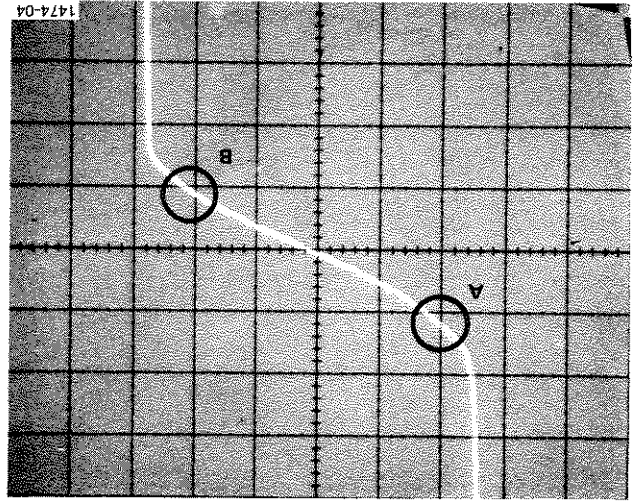
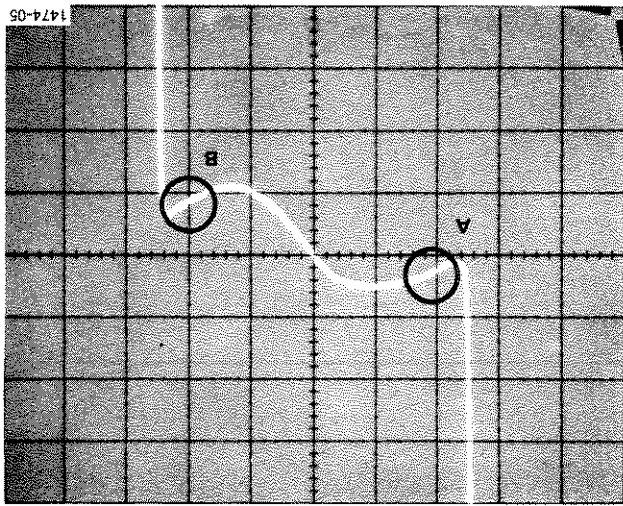

Fig. 2-3. Typical displays of Op Amp characteristics.
Fig. 2-4. Typical displays of Op Amp characteristics.
**Measuring Parameters.** Operational amplifier parameters are obtained from the crt display on the TEKTRONIX 577-178 much as parameters of transistors and diodes are obtained with conventional curve tracers. The operator first reads the crt display and then makes any necessary calculations. In the closed-loop test just described, the dut small input signal, or dependent variable, is displayed on the vertical axis of the crt. The large amplitude test signal at the dut output, or independent variable, is displayed on the horizontal axis. Gain is obtained by dividing a change in output voltage (horizontal) by the corresponding change in input voltage (vertical). Fig. 2-3 is such a crt display of an amplifier gain curve or transfer characteristic measured at essentially dc (actually 0.05 Hz). Zero volts on both axes is at center screen. Considering points A and B, for an output swing from -10 volts to +10 volts, the input voltage is seen to change 200 microvolts. The gain of this amplifier is 100,000 (or 100 dB), obtained by dividing output voltage by input voltage.
The vertical deflection of the curve shown in Fig. 2-3 is positive for negative output voltage. The curve occupies the second and fourth quadrants. The vertical lines going off-screen are caused when the output of the operational amplifier (dut) reaches its limits. At that point the sweep generator test signal no longer moves the dot output, but is applied to the input, causing large, off-screen excursions.
A tester that provides a numerical answer is likely to measure large gain by making two "point" measurements; for example, from point A to point B as shown in Fig. 2-3. A curve tracer measurement, by contrast, not only shows points A and B, but how the amplifier responds at all points between.
In Fig. 2-3, the curve between points A and B contains the information theoretically expected of an ideal amplifier; linear, constant slope with no spurious excursions. It is thus easy to assume that the input voltage is well behaved in all such devices and need not be checked. This misunderstanding can be dispelled by examining four other gain curves.
Figures 2-4 through 2-7 show characteristics that go from point A to point B, but not in the anticipated ideal manner. These are not unusual amplifiers that were built especially to demonstrate a point, but commonly available integrated circuit amplifiers. The "unusual" response is the ideal curve in Fig. 2-3. Most devices either do not produce ideal dc transfer characteristics or their application (operating conditions) distorts the characteristics beyond recognition.
In a world of ideal amplifiers, where all curves look like adequate for intelligent circuit design or component selection. From gain and the required output voltage change, a circuit designer can determine how much error signal will appear at the output of the amplifier. As Figs. 2-4 and 2-7 show, however, the real world is seldom ideal. These figures demonstrate that the published gain may not always be very meaningful or useful, especially at dc or very low frequencies. Here, thermal effects often mask or completely overshadow changes due to actual gain. From some of these figures, it would be difficult to communicate how their respective do perform in terms of a gain parameter; it would even be difficult to say what the gain could be. Therefore, a higher gain amplifier does not necessarily perform better or give less dc error than some other lower gain amplifier.
Consider Fig. 2-4. Measuring large-signal gain from point A to point B tells nothing about how the input changes between these points. The large-signal gain of 106 dB (200,000) suggests that the total input voltage excursions over a  $\pm 10$ -volt operating range is 100  $\mu\text{V}$ . However, the 577-178 display clearly shows that the actual excursion is 160  $\mu\text{V}$ . More significant may be the voltage excursion for small signals. The gain curve begins to approximate a straight line for small signals, making for small-signal gain a more meaningful parameter for evaluating amplifier performance in some cases. Consider, for example, a small voltage signal near zero output, as in Fig. 2-4. The input voltage excursion is great for relatively small output voltage changes. The computed dc gain for these small signals is only 50,000, far worse than the large signal gain of 200,000 measured from point A to point B. Thus, these examples clearly illustrate the inadequacy of the use of gain for specifying or predicting an amplifier's behavior at or near dc conditions.